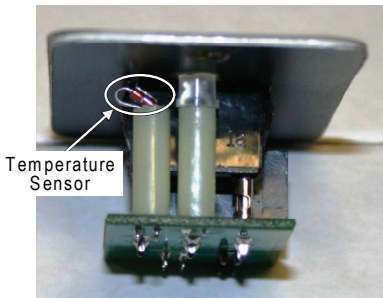

Figure 3, Locating Sensor
1. Find the Temperature Sensor behind the remote switch front plate; it is a small reddish looking device close to the metal front plate (see figure 3).